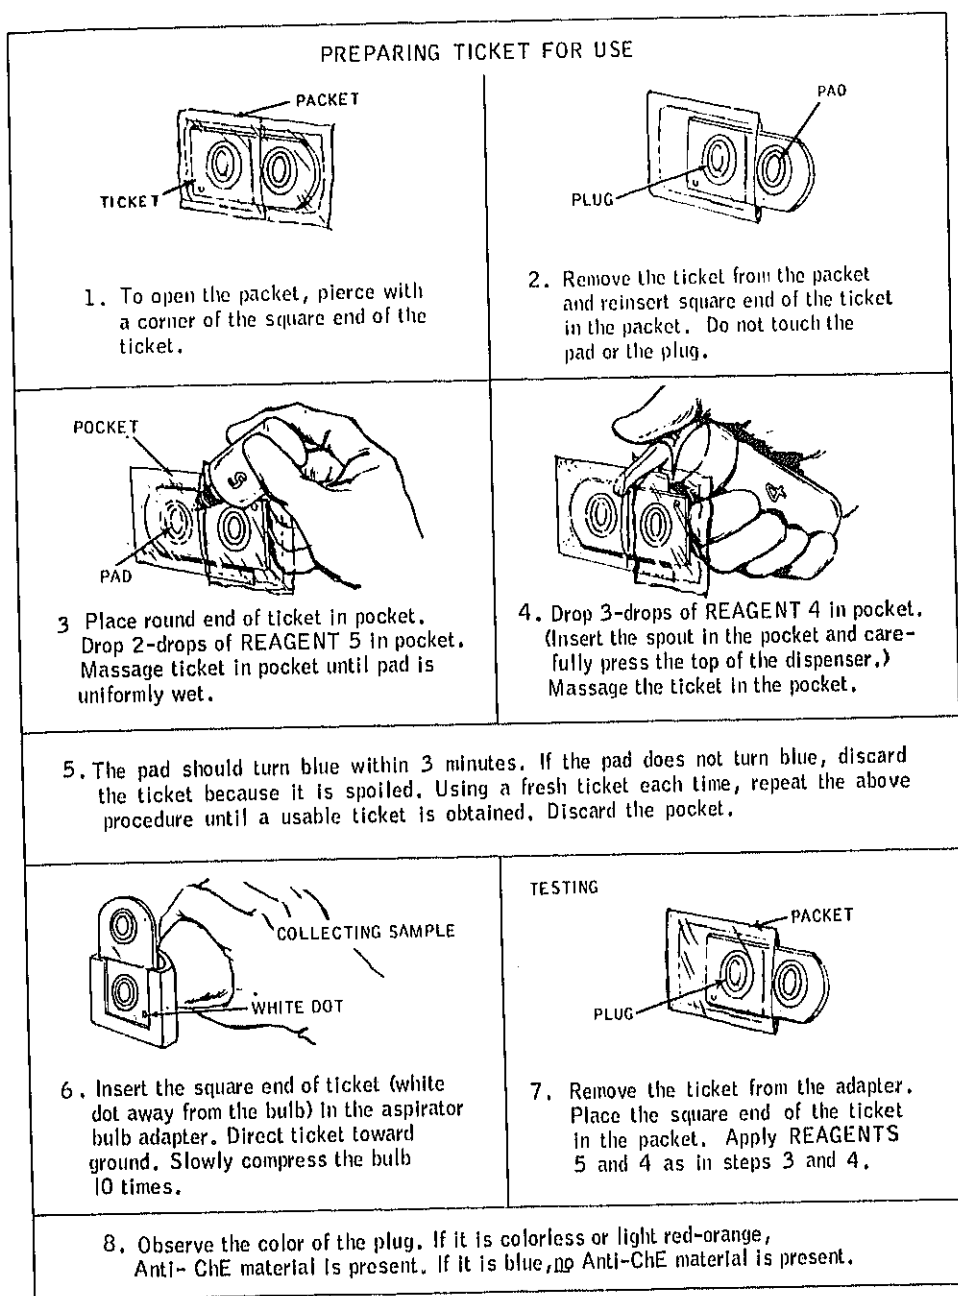

Figure 2-2 (U). Procedure for Anti-ChE test (TEST 1) (U).
- (1) Tear out a sheet of M8 detector paper from the book.
- (2) Hold it in contact with suspected source for approximately 10 seconds. (For suspected water, put a drop of the water on the paper.)
- (3) Note any color change and compare with colors printed on the inside cover of the book.
- (b) A red color indicates Mustard (H).
b. *Anticholinesterase Detector Ticket*. Use an anticholinesterase detector ticket (packet with a Green E) to detect anti-ChE material on surfaces in water and in the atmosphere. The procedure given in figure 2-2 is used to detect Anti-ChE material in the atmosphere.